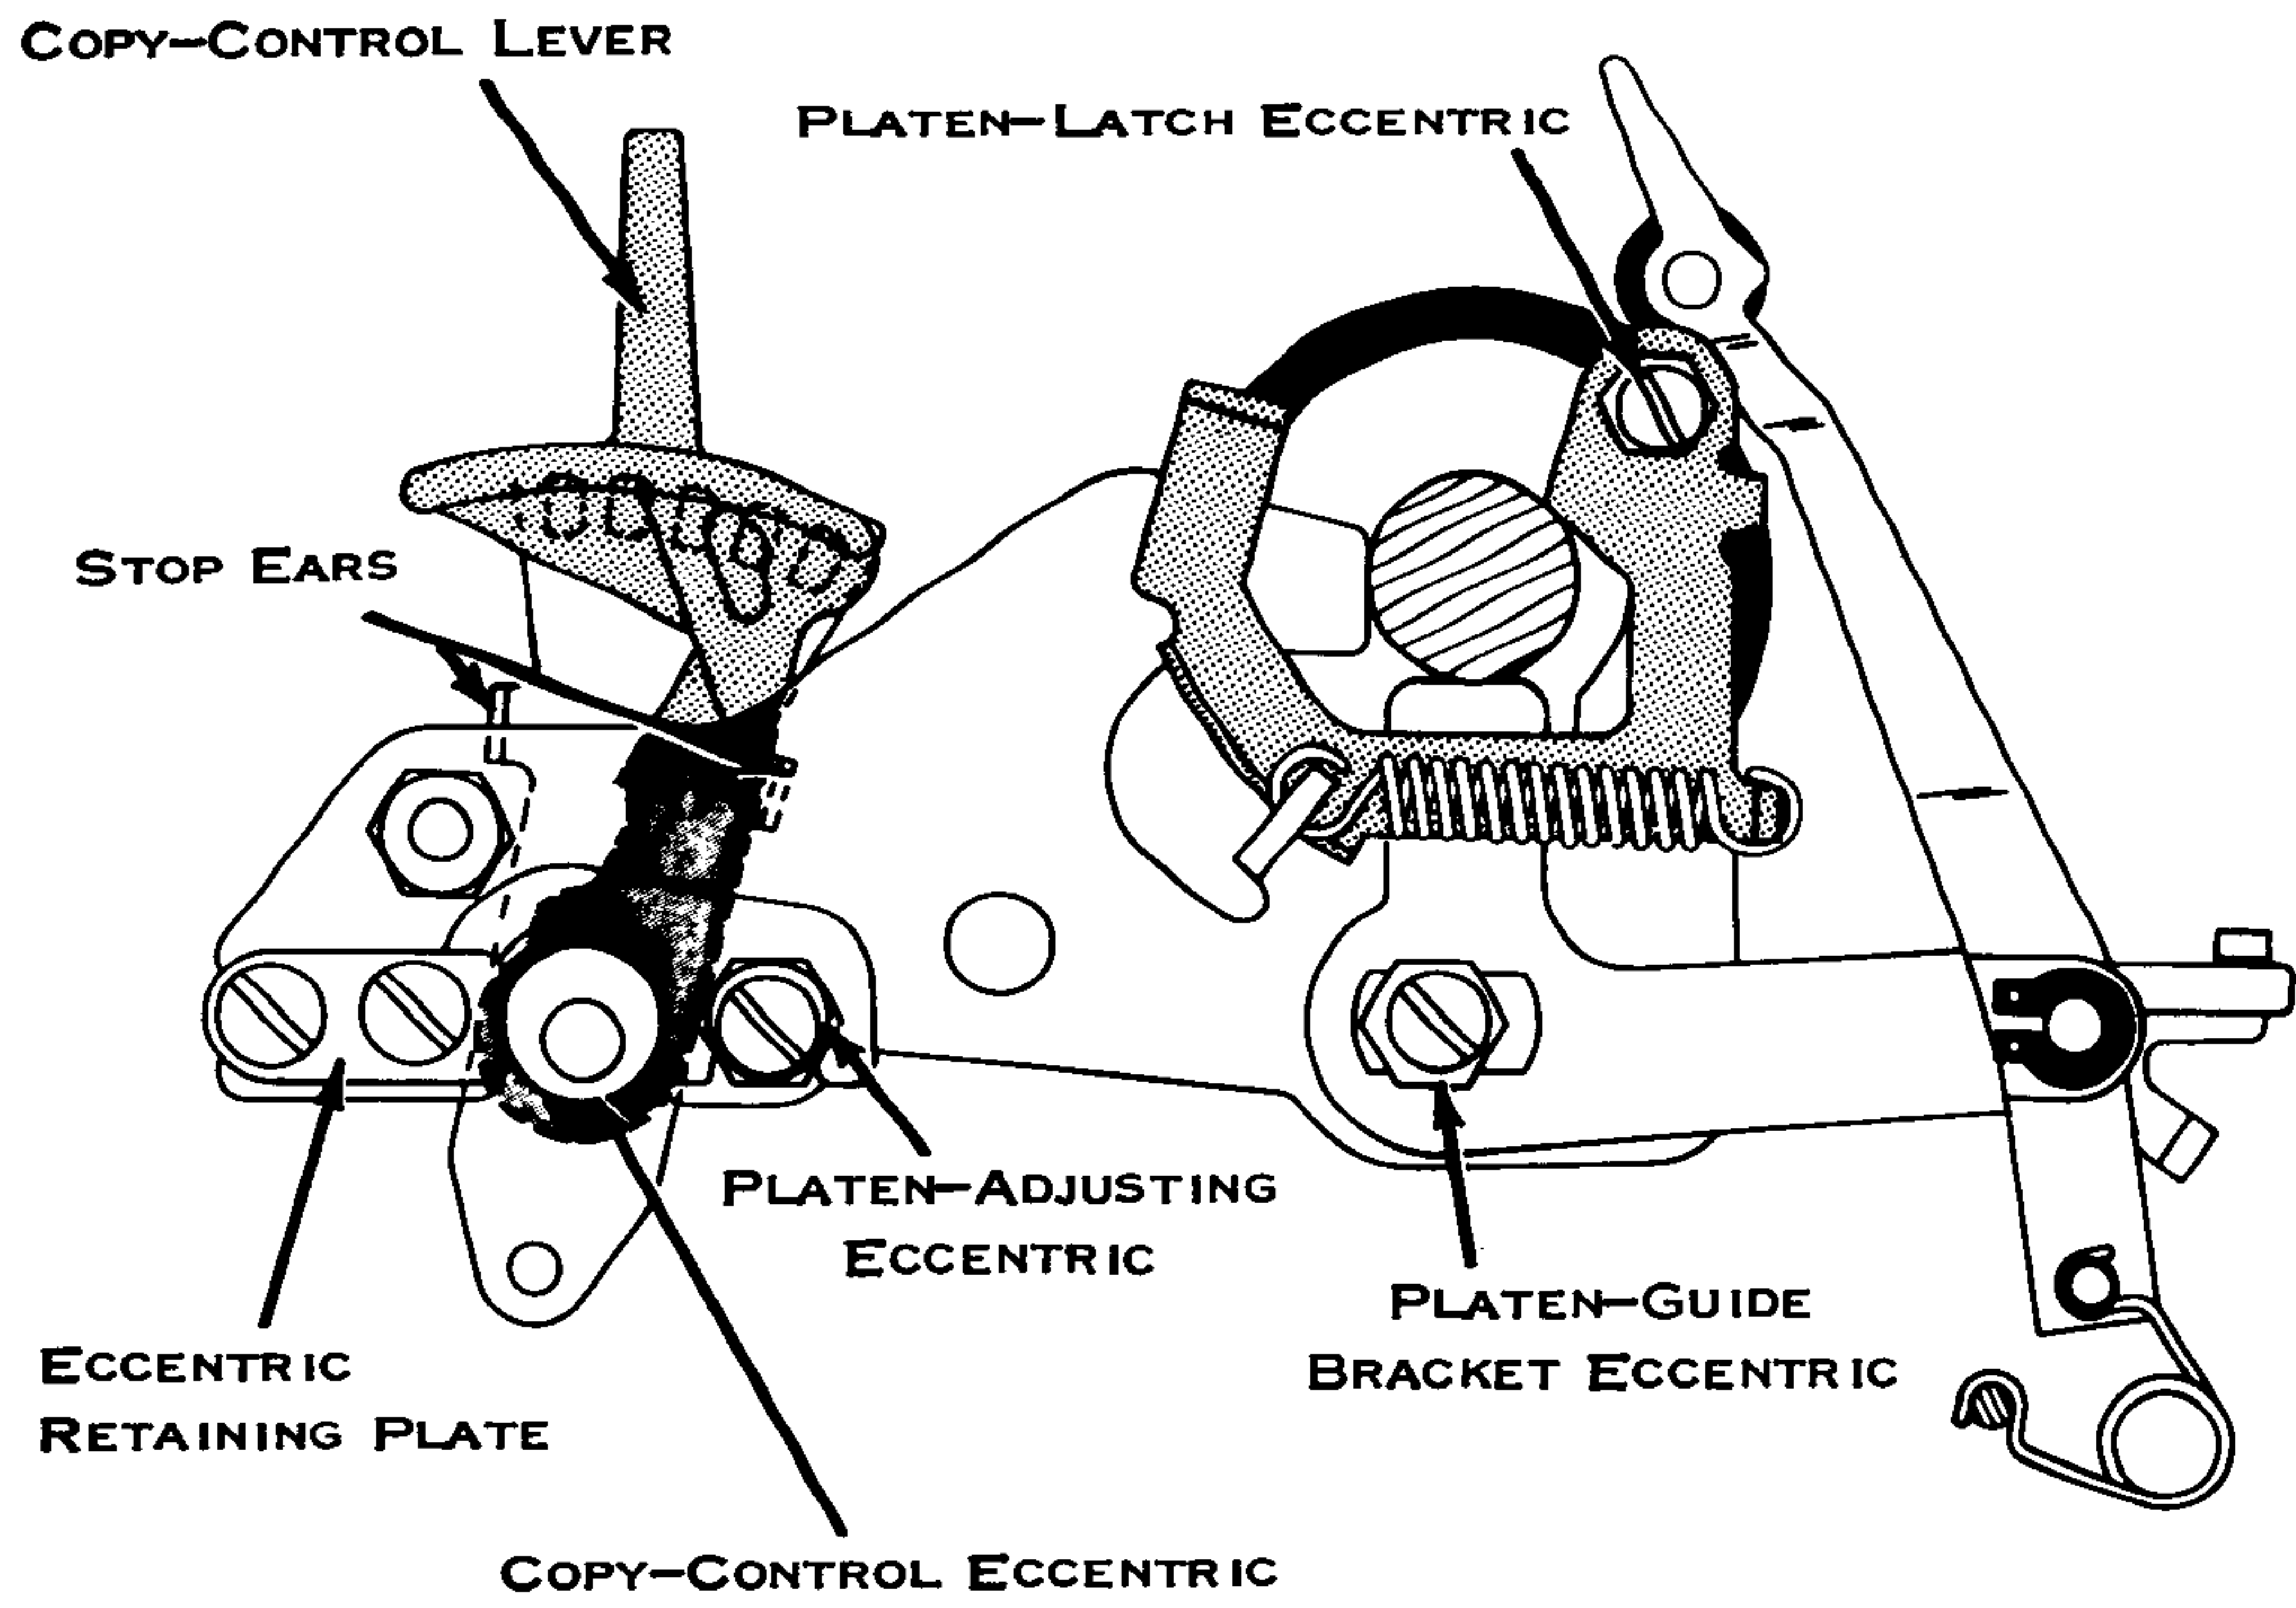
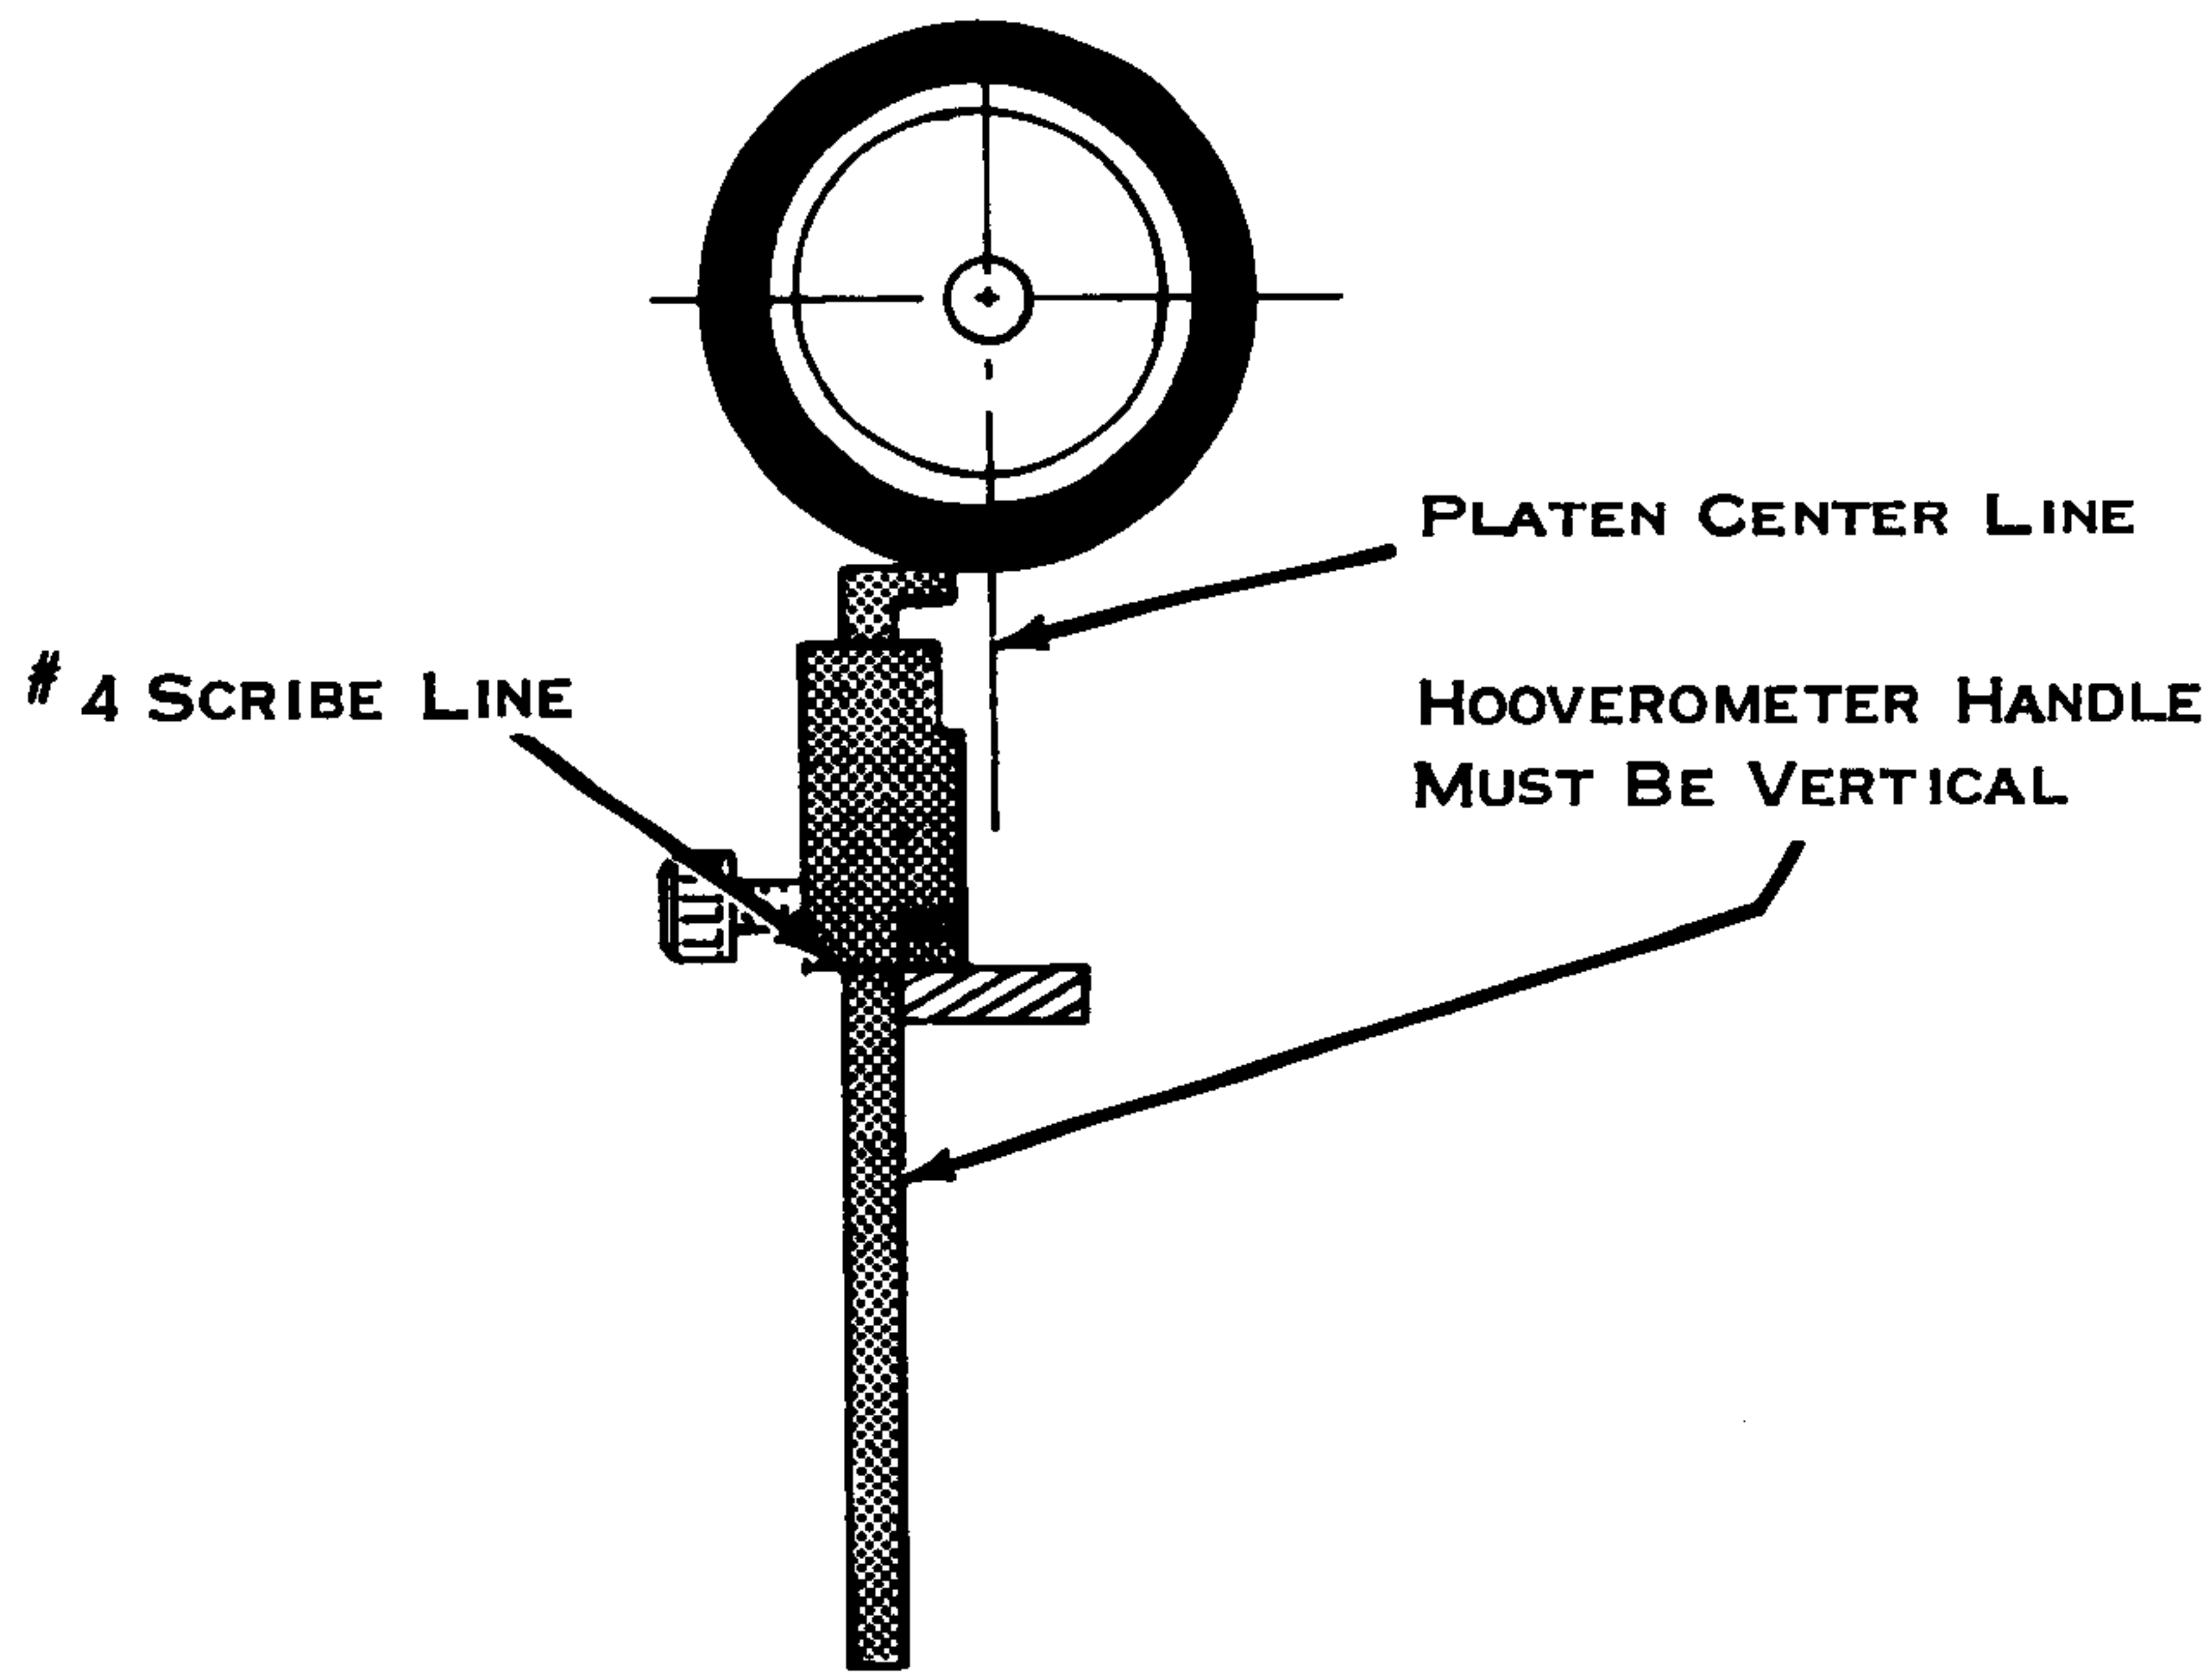
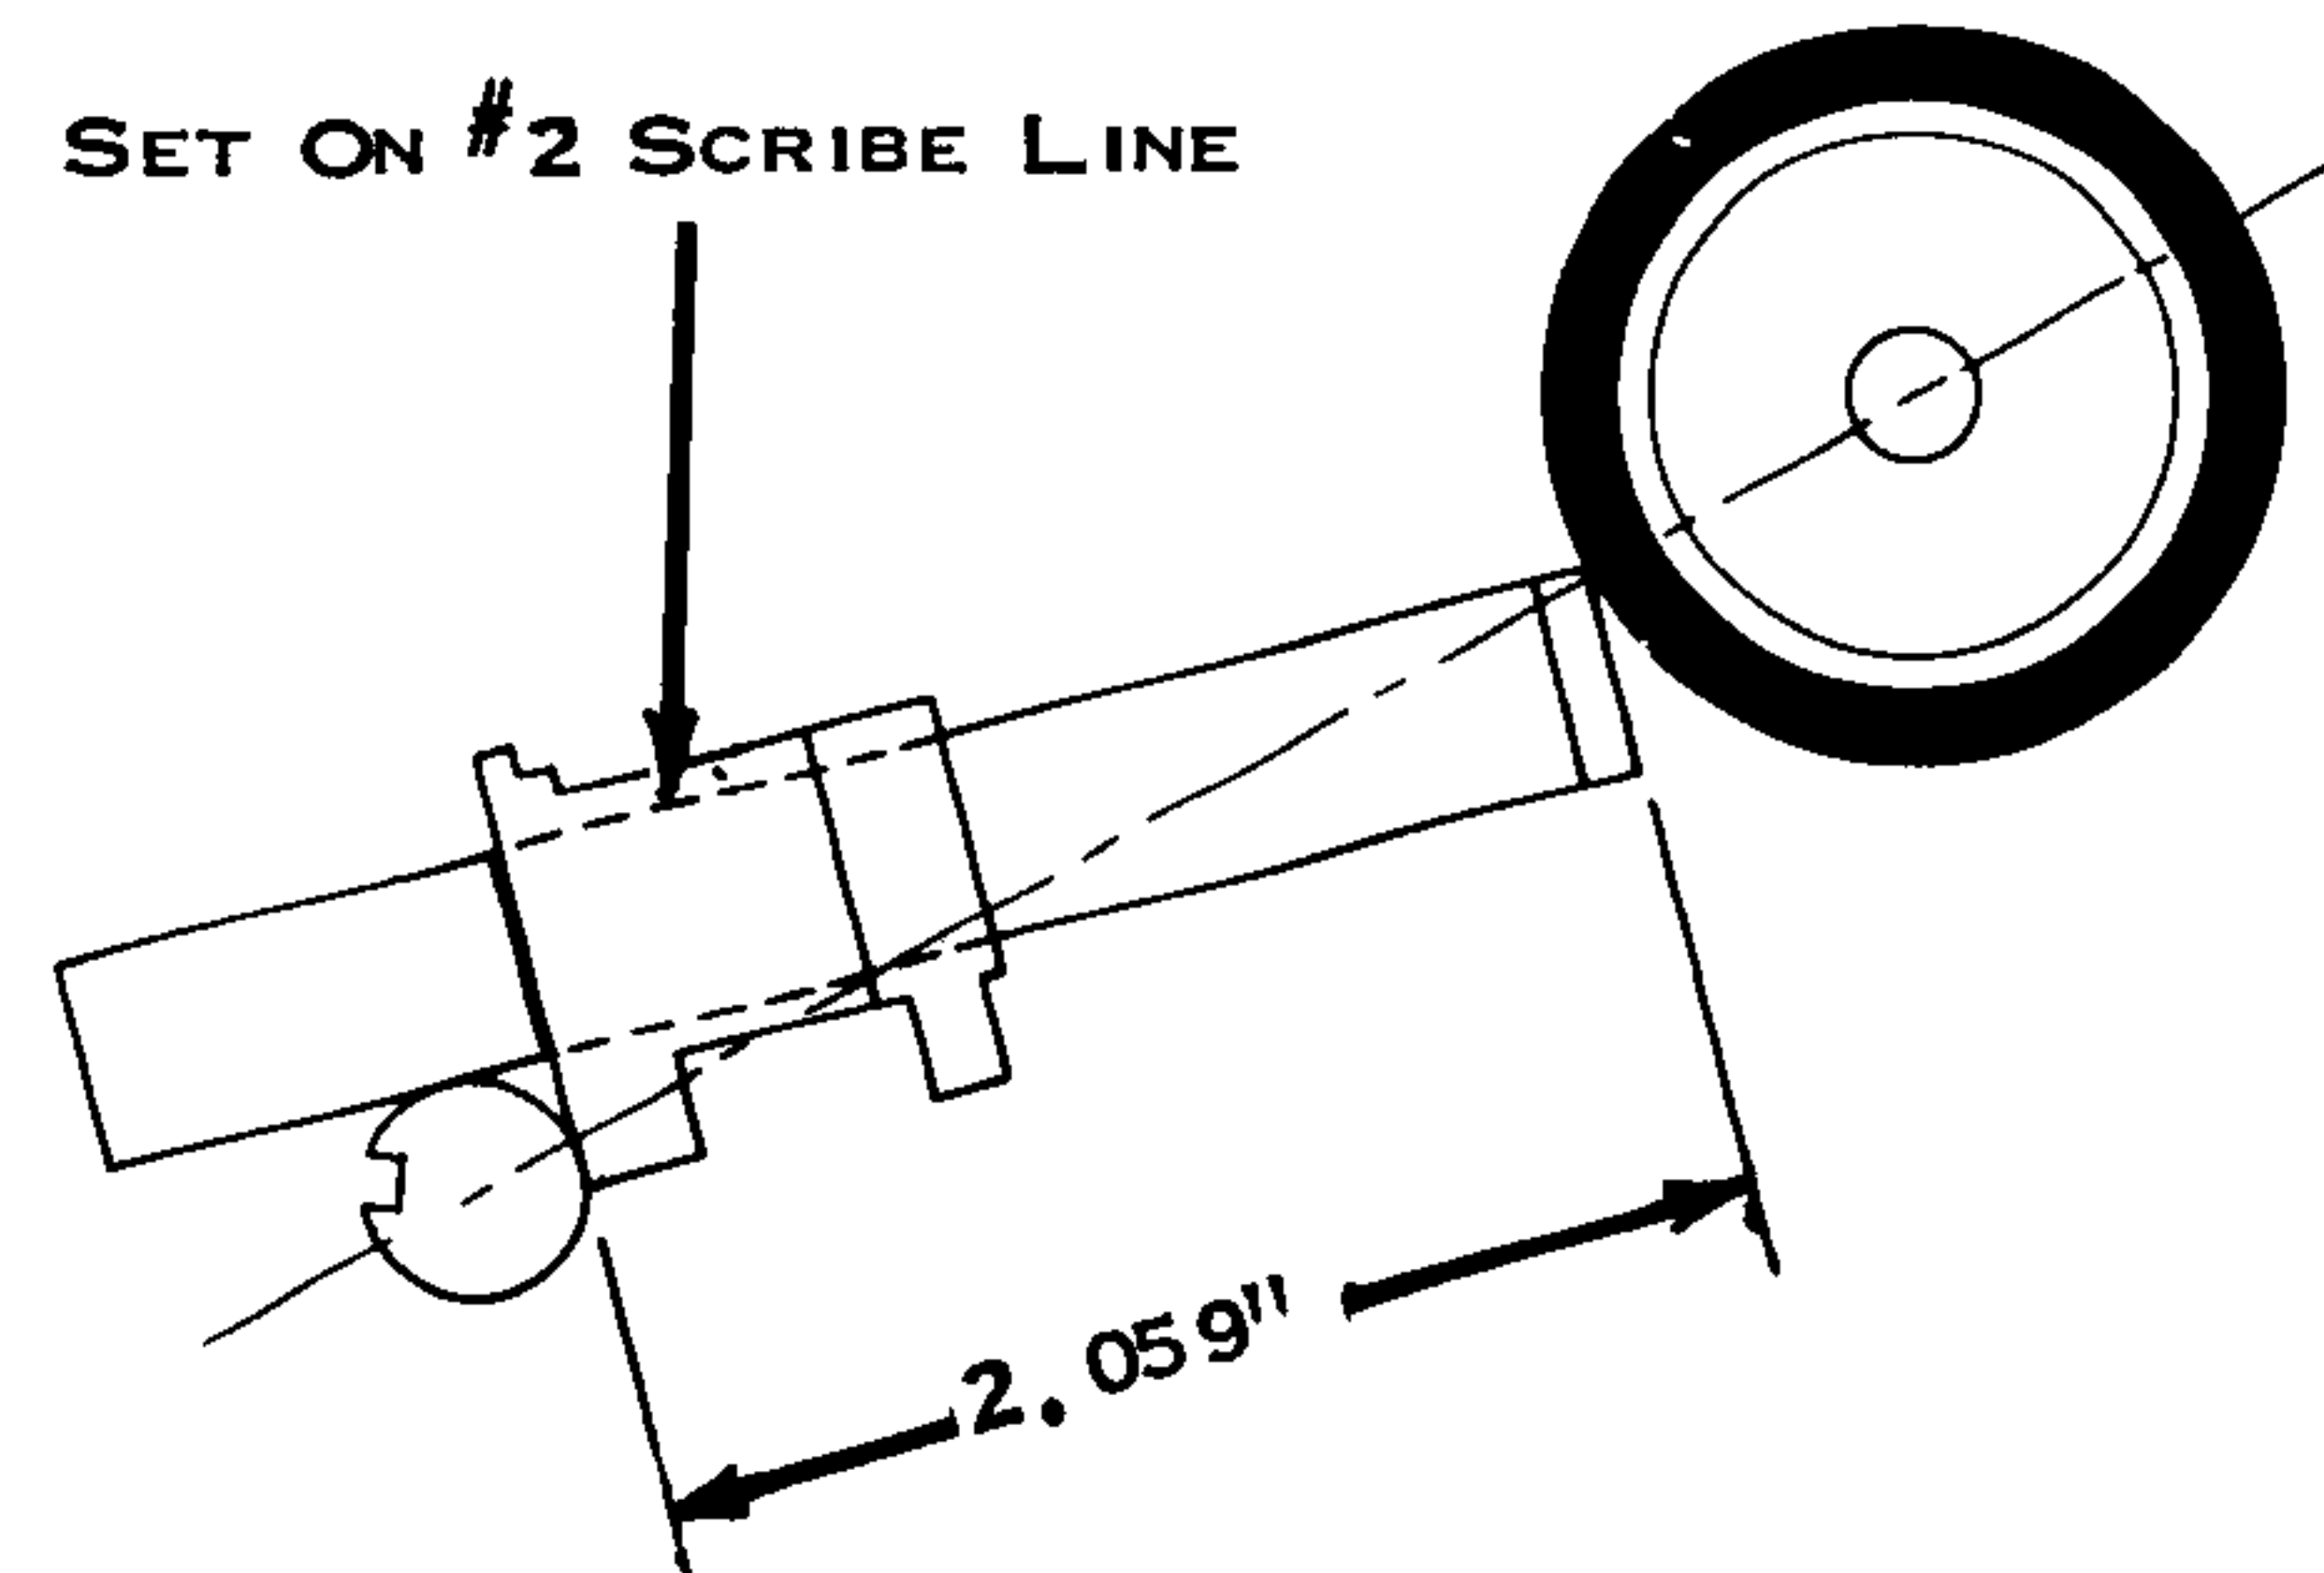

Figure 107. Print Mechanism
Figure 108. Platen Height Adjustment
Figure 110. Front to Rear
- Copy Control Eccentric (Fig. 107) - Position (copy control lever detented in the forward position) the high points up.
- Eccentric Retaining Plate (Fig. 107) - Position the plate on each side of the machine so that no front to rear play exists between the eccentric and its retaining plate.
- Stop Ears (Fig. 107) - Form to provide positive detenting in both front and rear positions of the copy control lever.
- Platen Latch Eccentrics (Fig. 107) - Adjust (high points down) to hold the platen firmly, both vertically and horizontally.
5. Platen Height (Fig. 108) - Adjust the platen guide bracket eccentrics (See Fig. 107 for eccentrics) so that the Hoovermeter spans the distance between the escapement rack and platen. The Hoovermeter head should be set on the #4 scribe line.
6. Platen Adjusting Eccentrics, Front To Rear Adjustment (Fig. 110, Ref. Fig. 107) - With the head of the Hoovermeter set at the number 2 scribe line, the tool should span the distance between the platen and the print shaft. Adjust the platen adjusting eccentrics at each end simultaneously to obtain the proper adjustment. CAUTION - Be sure the Hoovermeter does not rest on the print shaft keyway and that the upper corner of the Hoovermeter handle, not the lower, is used for checking. The handle should be kept perpendicular to the platen to avoid an erroneous measurement. Changing the platen position at either end will slightly effect the other end. Be sure to recheck each adjustment.